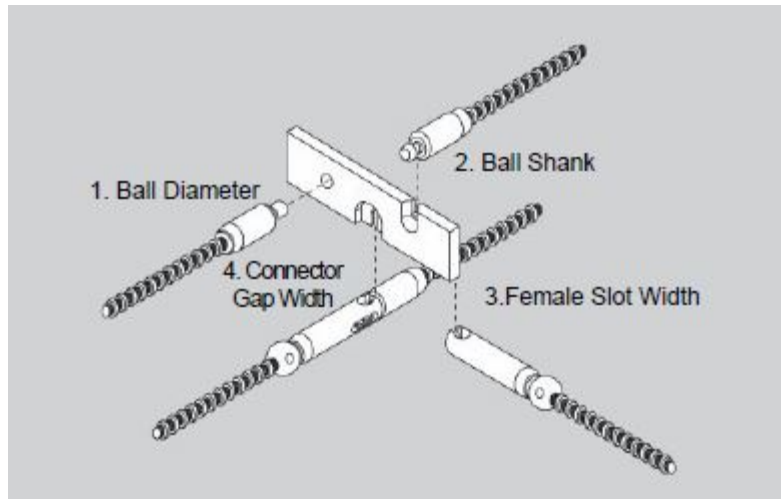

FIGURE 6– NO GO Gauge Tests
Check the control cable and source assembly connector using the NO GO gauge. Without using excessive force, check the following four positions (see Figure 6):
4. Check the control cable and source assembly connector using the NO GO gauge. Without using excessive force, check the following four positions (see Figure 6) and Section 2.3 Step 3 of this manual.